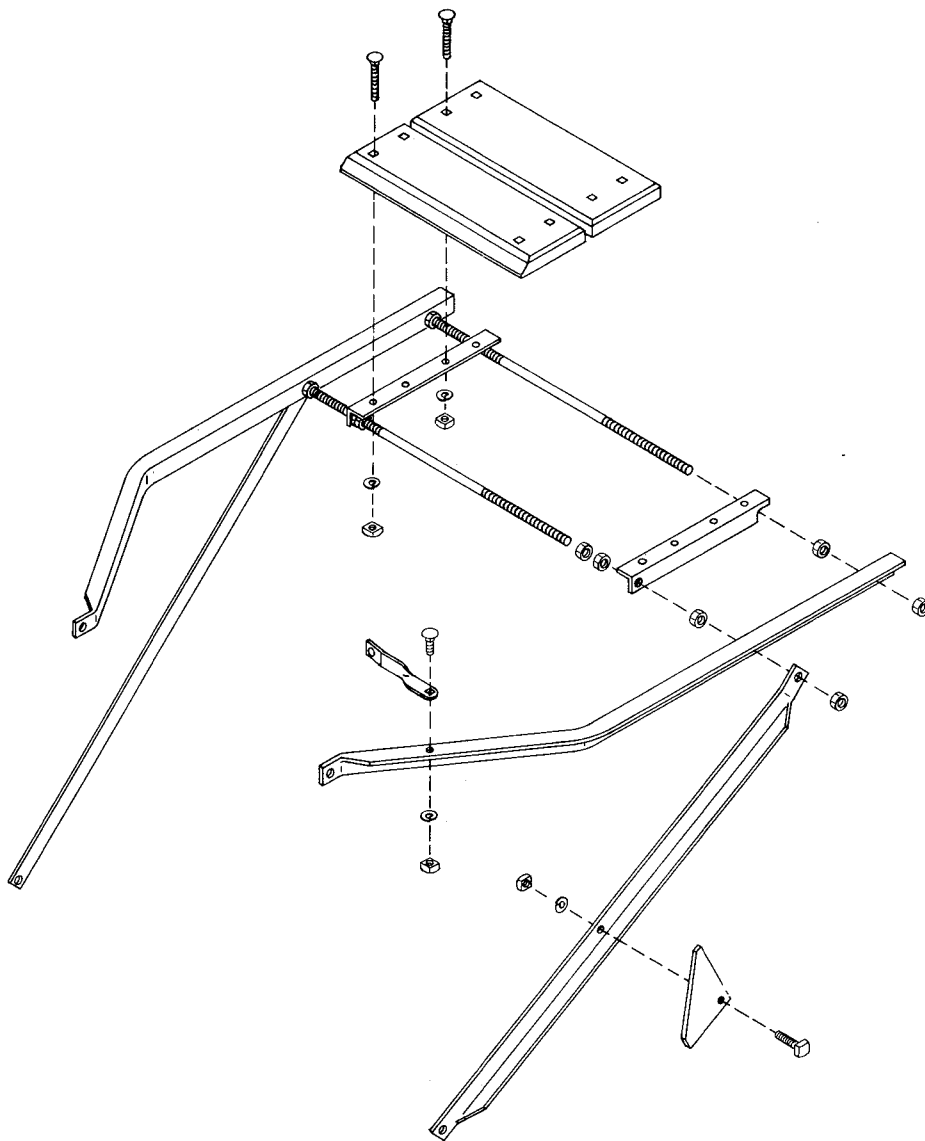

Fig. 3—Assembly of C Terminal Balcony
3.01 The C terminal balcony (Fig. 3 and 4) is identical to the B terminal balcony without a back. It is intended for use at low height feeder